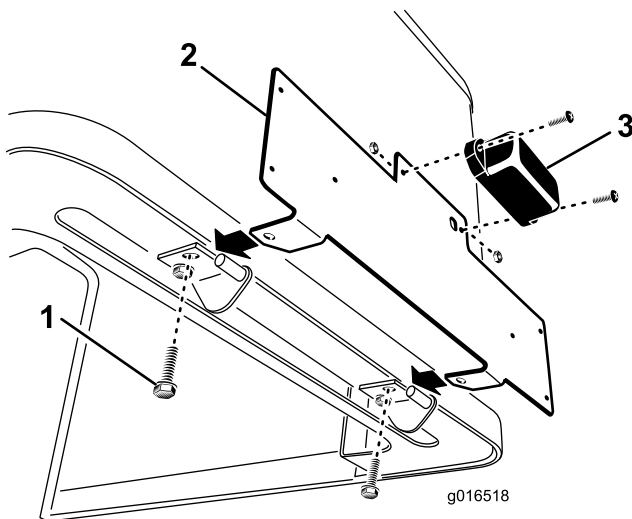

Figure 1
4. Remove the (2) cotter pins securing the rear hood pivot mounts to the frame pivots and lift off the hood.
5. Remove the **rear** screws that secure the hood pivot mounts to the hood (Figure 1). Only remove the rear screw from each hood pivot mount.
6. Mount the light to the plate mount with (2) #10 x 5/8 inch screws and #10 lock nuts (Figure 1). Do not over tighten. Make sure the lens points downward and the wires are inserted through the hole in the plate mount.
7. Using the (2) screws previously removed, install the plate mount to the hood pivot mounts and the hood (Figure 1).